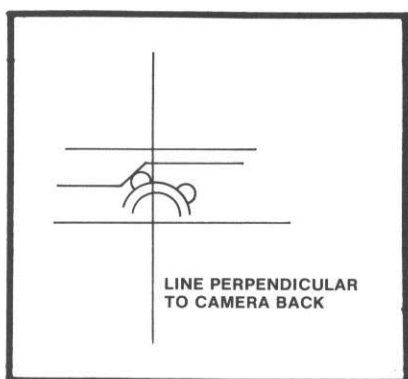

Figure 77
12. Turn the sprocket to the timed position, Fig. 77.